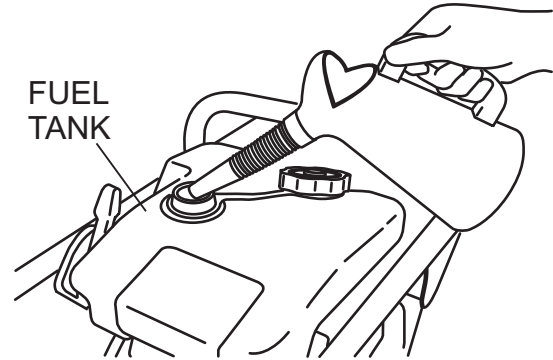
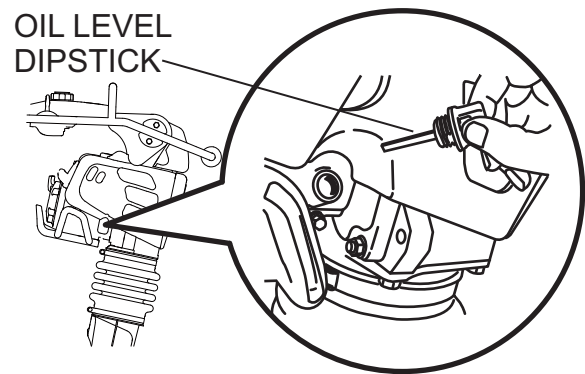

Figure 3. Fuel Tank
Figure 4. Engine Oil Dipstick
1. Fill the fuel tank (Figure 3) with unleaded gasoline. At the same time, check the engine oil and make it a habit to replenish it often (Figure 4).